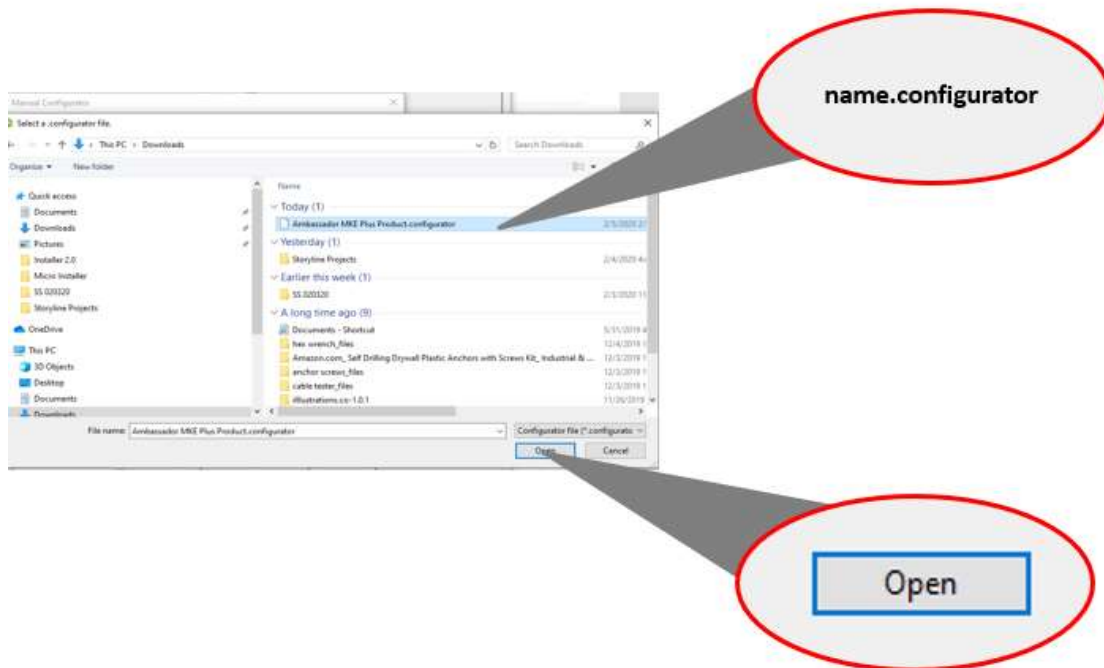

Figure 3
8. Select the configurator file you just downloaded, then click **Open** (Figure 3).